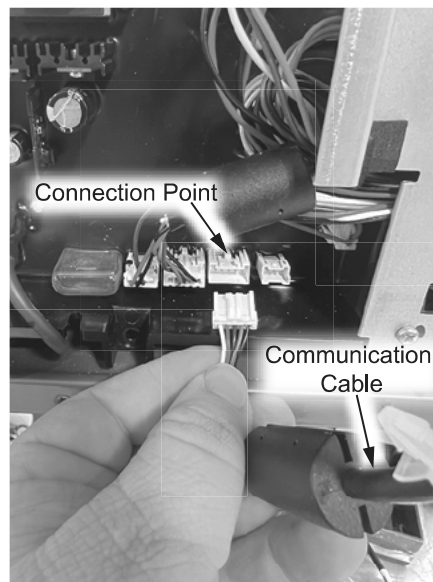

Figure 6 - Connecting the communication cable to the control board.
- 16** Using Figure 6 as reference connect the communication cable to the control board panel.